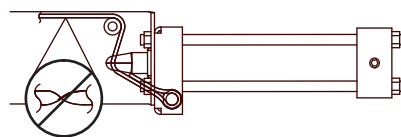

Figure 4
1. Make sure web tethers are routed per diagram on S4S, and not twisted, pinched or damaged before unit is torqued. See FIGURE 4